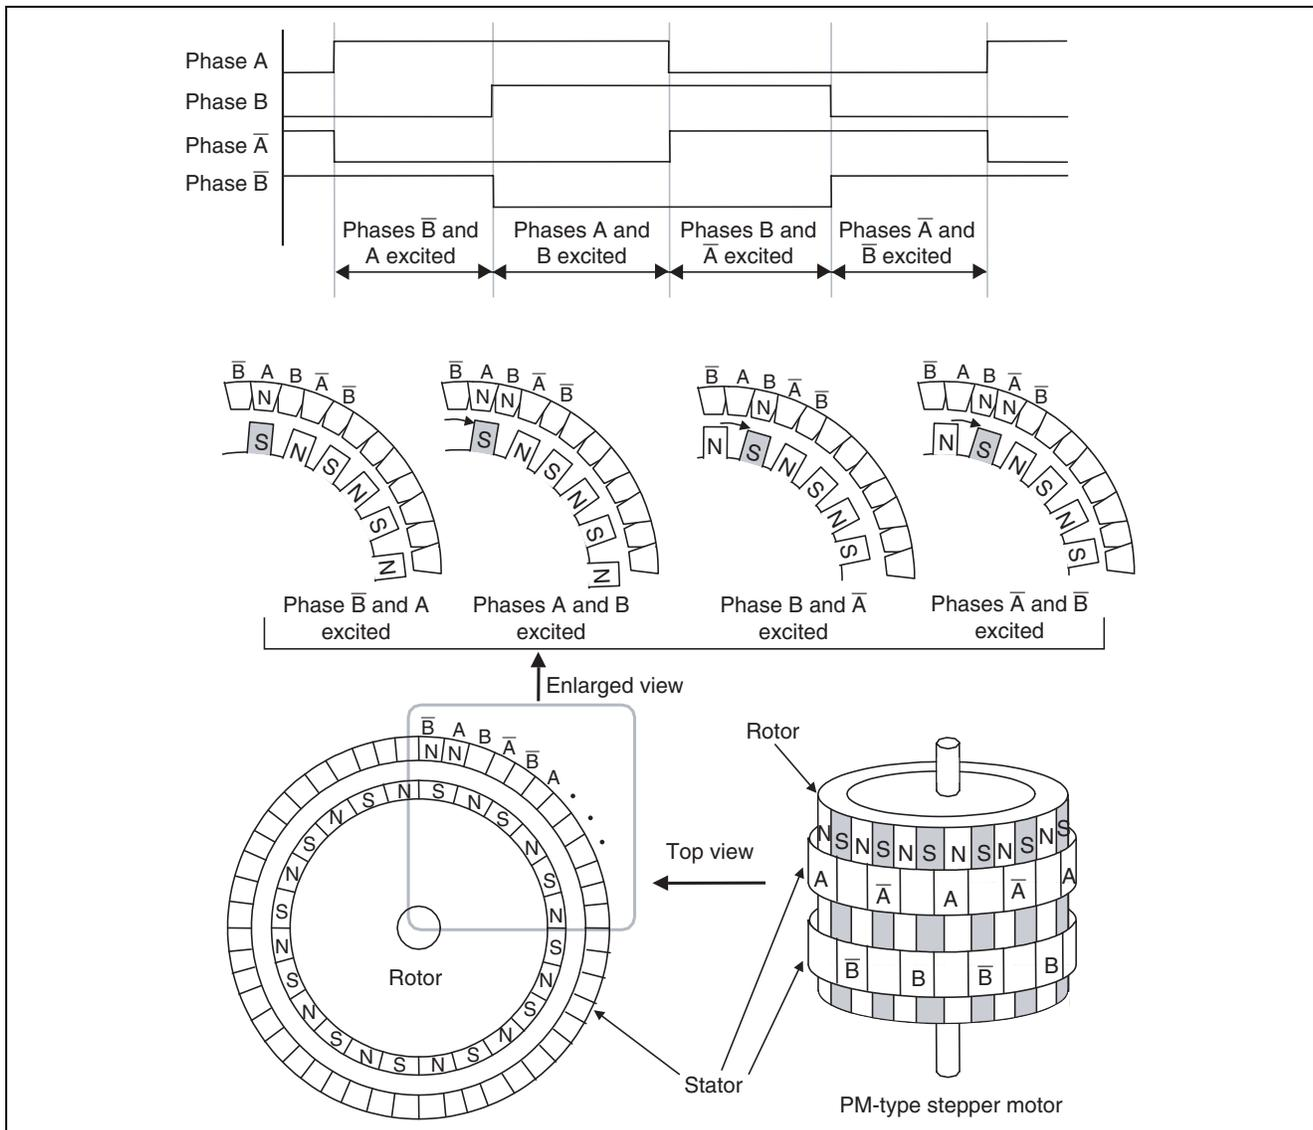

Figure 6 Example of Stepper Motor Operation
Figure 6 shows an example of operating the two-phase stepper motor with a stepping angle of 7.5 [deg./step] by using two-phase excitation. The operation is outlined below.
- As shown in figure 6, a high pulse causes the corresponding phase to be excited.